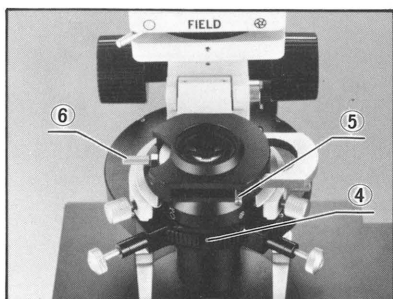

Fig. 12
- 3) Rotate the condenser turret ④ to position "0". (Fig. 12)
- 4) Slide the polarizer sliding knob ⑤ to the right completely to engage the polarizer. (Fig. 12)
- 5) Looking through the eyepiece, slightly move the polarizer clamping knob ⑥ horizontally back and forth to change the brightness of the field of view. When the optimum extinction is obtained, tighten the clamping knob ⑥. (Fig. 12) At this position, the vibrating directions of polarizer and analyzer are crossed at right angles, where an interference color can be seen if the specimen is birefringence.